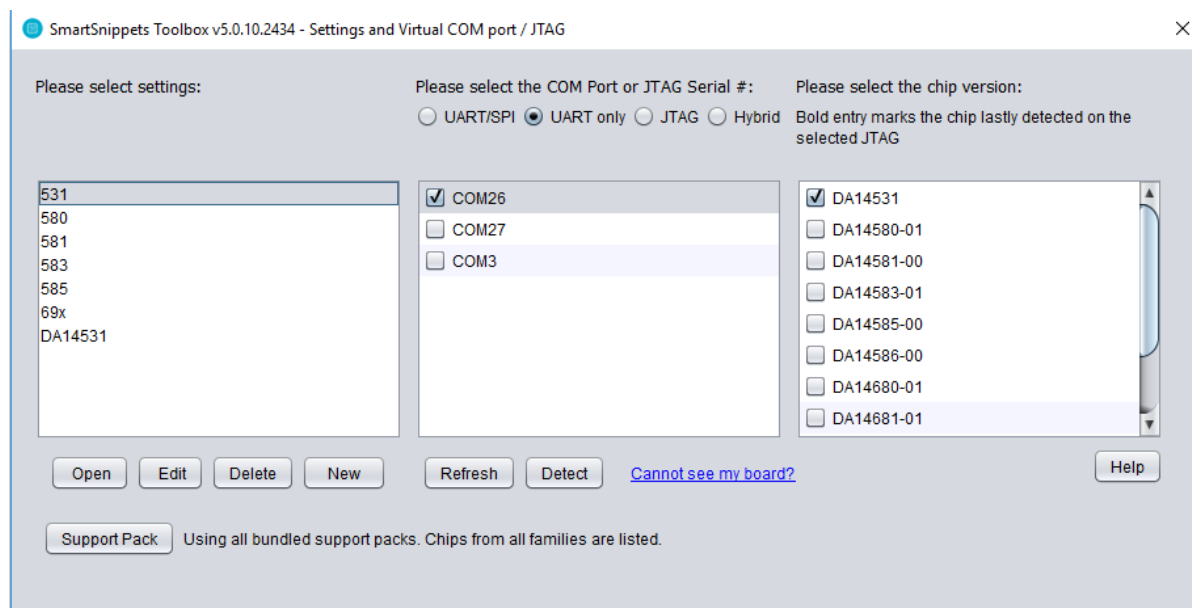

Figure 8: SmartSnippets™ Toolbox settings
- Select the following SmartSnippets™ settings as shown in Figure 8 to boot from UART